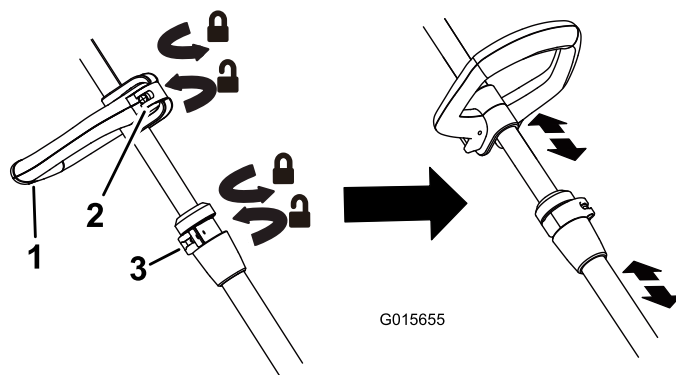

Figure 4
- To adjust the trimmer height, open the height adjustment latch, then slide the shaft up or down to desired height, securing it in place with the latch (Figure 4).
- To adjust handle height, flip the auxiliary handle latch, slide it up or down to the desired height, then secure it in place by closing the latch (Figure 4).